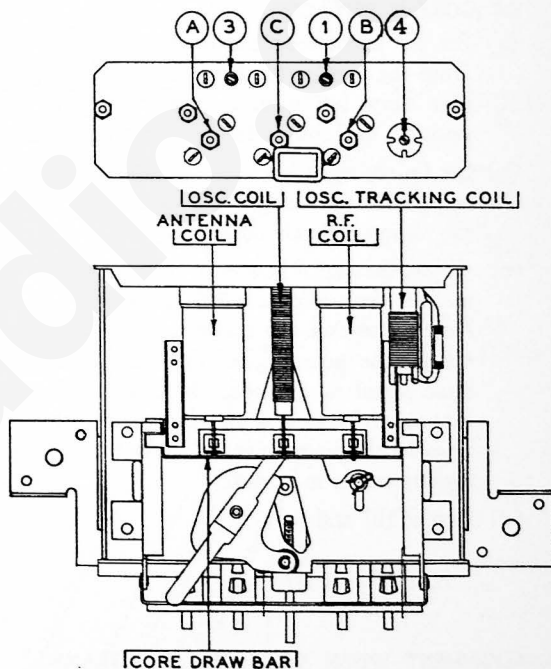

FIGURE 1
- (b) Turn the tuning control knob clockwise as far as it will go so that the cores will be in the extreme "out" position. Set the signal generator to 1600 K.C. and adjust padder (3) (Fig. 1) for maximum signal.
- (c) Adjust padder (2) aerial compensator in radio and padder (1) (see Fig. 1) for maximum signal.
- (d) Set the signal generator at 1400 K.C. and tune the manual control to 1400 K.C. Adjust the R.F. and antenna coil for maximum signal by turning the mounting nuts (A) and (B).
- (f) Set the signal generator at 600 K.C. and the tuning control at 600 K.C. Adjust the screw (4) (see Fig. 1) for maximum signal. Rock the tuning control when making this adjustment. Tune the control to the signal and adjust the screw for maximum output. Rotate the tuning control back and forth slightly until maximum output is obtained. Then readjust the screw until no further improvement is noticed.
- (b) Set up the signal generator to 1600 K.C. and adjust padder (1) (see Fig. 1) for maximum signal.
- (c) Adjust the signal generator to 1400 K.C. and set the tuning control at 1400 K.C. Adjust the coil form by turning the mounting nut (B) until maximum signal is obtained. In case a peak cannot be
- (a) Set the signal generator to 600 K.C. and the tuning control at 600 K.C. Adjust screw (4) (see Fig. 1) for maximum signal. Rock the tuning control while making this adjustment. Tune the control to the signal and adjust the screw for maximum output. Rotate the tuning control back and forth slightly until maximum output is obtained. Then readjust the screw until no further improvement is noticed.
- (b) Check and readjust the aerial compensator (2) in the radio, and padders (1), (2), and (4) as described in 1.
- (b) Set up the signal generator to 1600 K.C. and adjust padder (3) (see Fig. 1) for maximum signal.